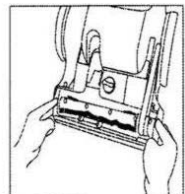

Fig. 10
- Remove the two screws from the bottom of the motorized power head. (Fig. 10)